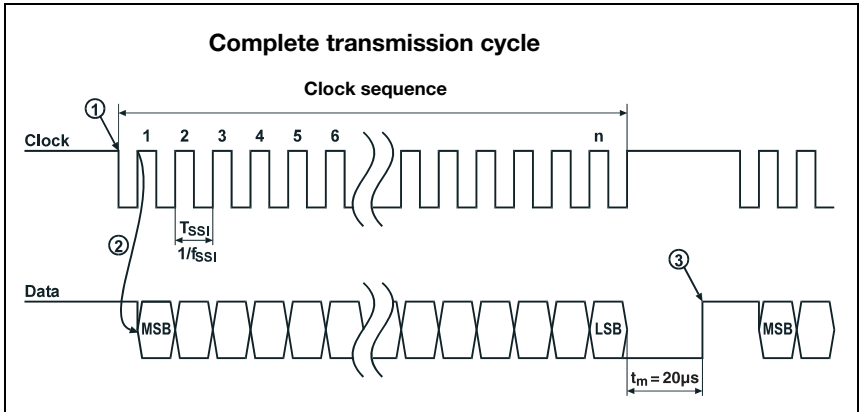

Figure 10.1: SSI data transmission sequence diagram
In the quiescent state both the clock line as well as the data line are at HIGH level. At the first HIGH-LOW edge (point ① in figure 10.1) the data in the internal register are stored. Thus it is ensured that the data cannot change during serial transmission.
When the next clock signal change from LOW to HIGH level (point ② in figure 10.1) occurs transmission of the position value begins with the most significant bit (MSB). With each successive change of the clock signal from LOW to HIGH level the next least-significant bit is transmitted on the data line. After the least significant bit (LSB) has been output, the clock signal switches from LOW to HIGH for one last time and the data line switches to LOW level (end of transmission).
A monoflop retriggered by the clock signal determines the time span before the SSI interface can be called for the next transmission. This results in the minimum pause time between two successive clock cycles. If time  $t_m = 20\mu\text{s}$  has elapsed, the data line is returned to the quiescent level (HIGH) (point ③ in figure 10.1). This signals completed data communication and that the device is again ready for transmission.